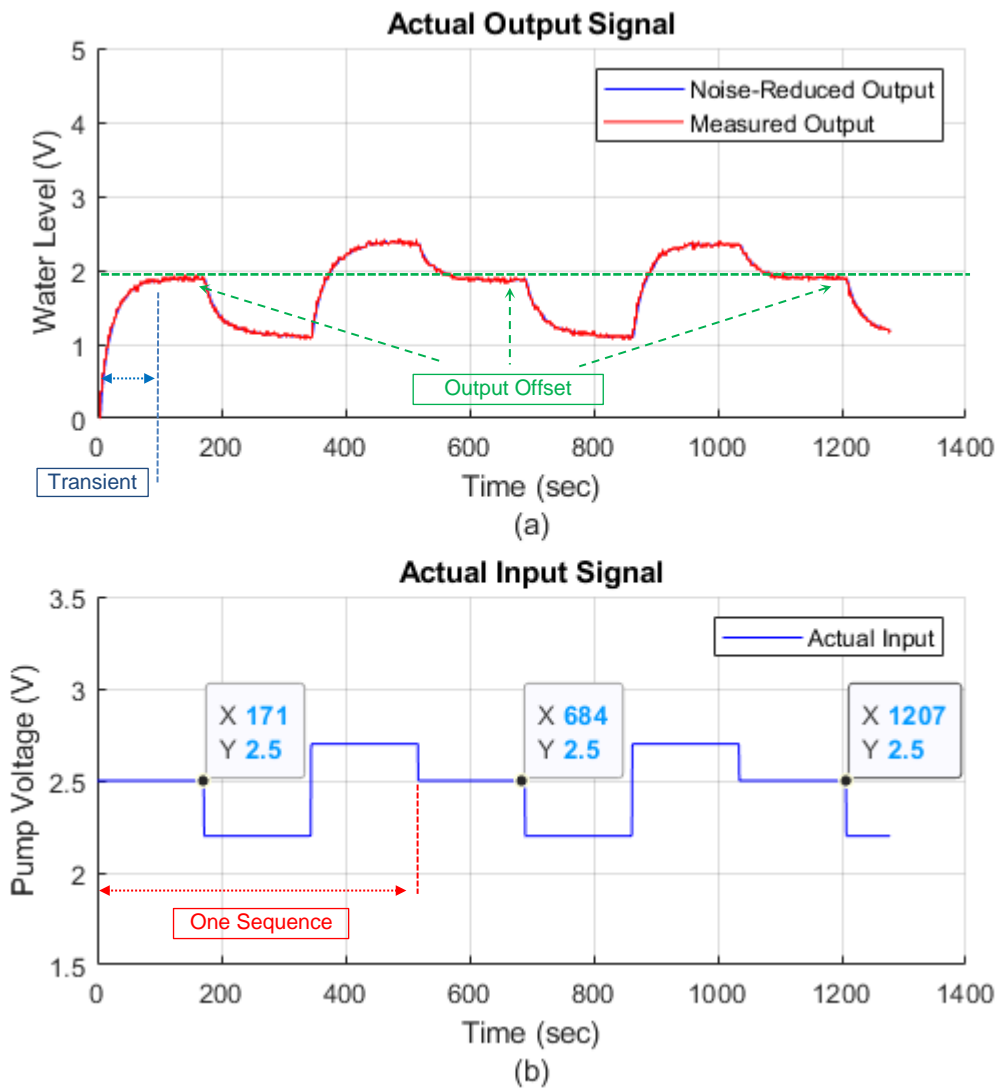

Fig. 5. Raw collected data in three repetitions, (a) Output data, (b) Input data.
- Before you use the raw data in your code from Lab 1, you have to either cut off the initial transient part of the data or the first sequence plus the transient part in the second sequence in order to get a good estimate of the output offset. The transient part is shown in Fig. 5(a) with the blue double-sided arrow, the output offset levels are shown in green for three sequences (i.e., the response to input voltage 2.5V in Fig. 5(a)), and the first sequence is shown in Fig. 5(b).
Step (a) is important because sometimes the initial period may not be long enough for the output to reach its offset. That would lead to underestimating the output offset. Also, during the operation, output offset can be different between sequences of the input offset, i.e., applying the same input at different times and getting slightly different output values. Moreover, during the initial sequence (Fig. 5(b)), some unexpected events can happen which make the data to be unreliable for system identification. Therefore, you must analyze data carefully, throw out the unusable part, and only keep the most reliable part of the data for system identification.